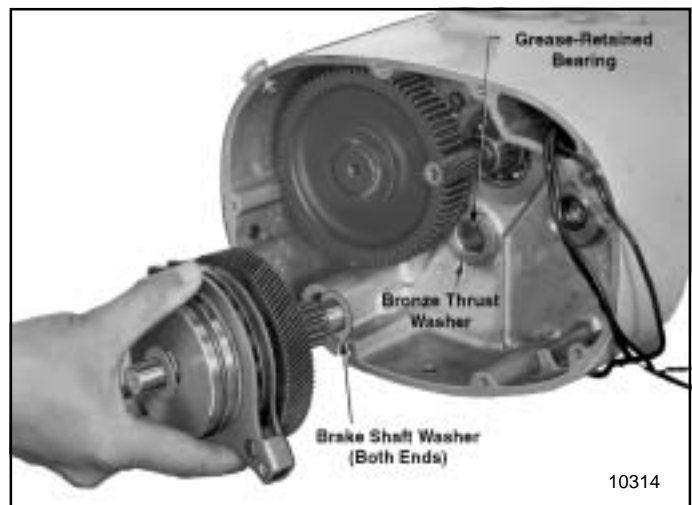

Figure 7-7. Removing Load Brake and Clutch Assembly (1/4 & 1/2 Ton Hoists)
(1) On 1/4 thru 1/2 ton hoists, pull load brake and overload clutch assembly and the brake shaft washers from inside hoist frame (fig. 7-7). Caution: Grease-retained bearing has 36 rollers (all capacities) and may be reinstalled unless rollers are broken or missing or cup is damaged.